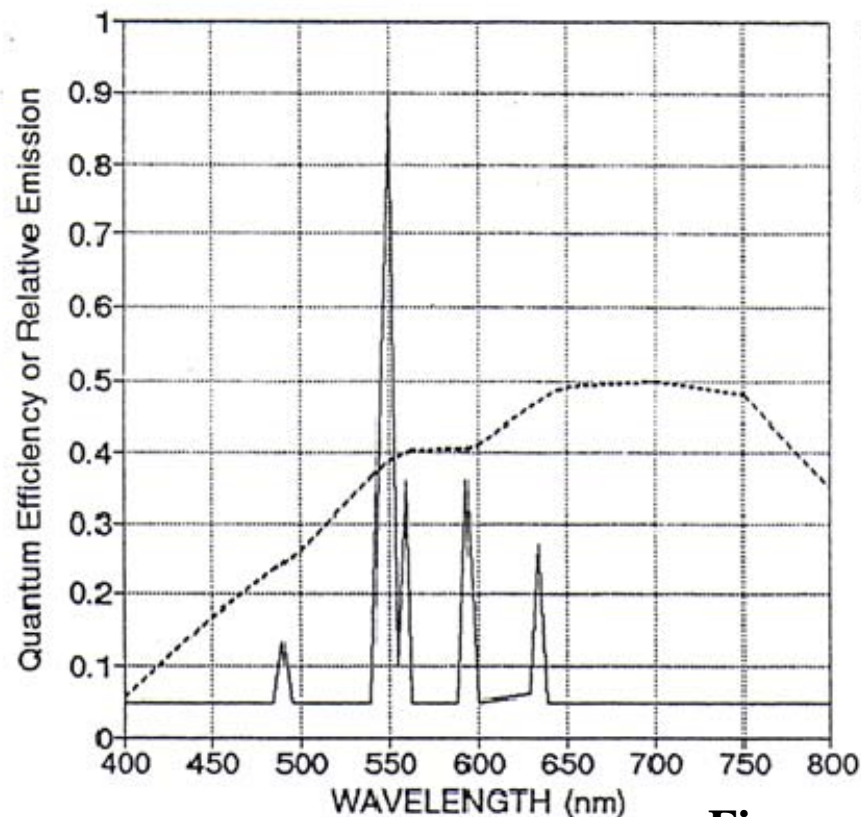

Figure 6
This photon to electron conversion factor is a function of wavelength. Fig.6 shows the spectral quantum efficiency of the Ford aerospace **CCD** in conjunction with the spectral emission of a Kodak Lanex (rare earth) intensifying screen.
- ❖ According to Fig.6, this **CCD** imager has a quantum efficiency of 35% at 550nm.